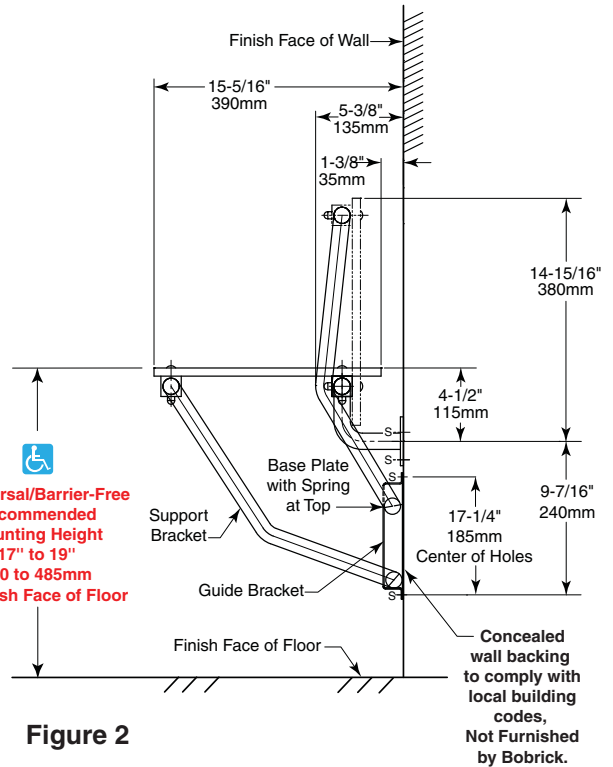

Figure 2
- 1) **For stud wall construction,** install backing (not furnished by Bobrick) (see Figure 2). Backing must be provided before the finished shower wall is applied. Secure with #14 x 2-1/2" (6.3 x 65mm) stainless steel mounting screws furnished by manufacturer.
- 2) **For prefabricated shower stalls,** adequate backing must be provided by the shower stall manufacturer (see Figure 2). Secure with #14 x 2-1/2" (6.3 x 65mm) stainless steel mounting screws furnished by manufacturer.
- B. Locate Guide Bracket on wall with bottom center of Support Tube resting on bottom of Guide Bracket (see Figure 2).
- B. When seat is raised parallel to the wall, it will remain in this position until lowered (see Figure 2).